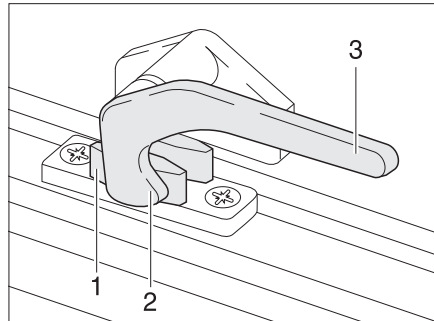
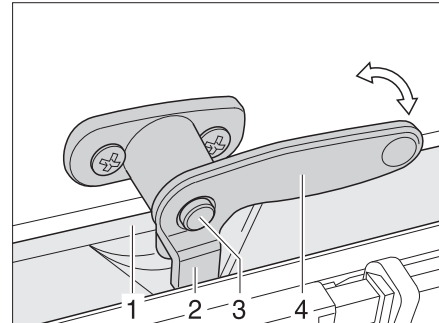

Fig. 65 Catch lever in "closed" position
Fig. 66 Catch lever with safety knob in "closed" position
- If it exists, press the safety knob (Fig. 66,3) down and hold it.
- Turn the catch lever (Fig. 65,3 or Fig. 66,4) a quarter turn towards the centre of the window.
- Turn the catch lever (Fig. 65,3 or Fig. 66,4) a quarter turn towards the centre of the window frame. The locking catch (Fig. 65,2 or Fig. 66,2) is located on the inside of the window catch (Fig. 65,1 or Fig. 66,1).
- "Firmly closed" (Fig. 65)